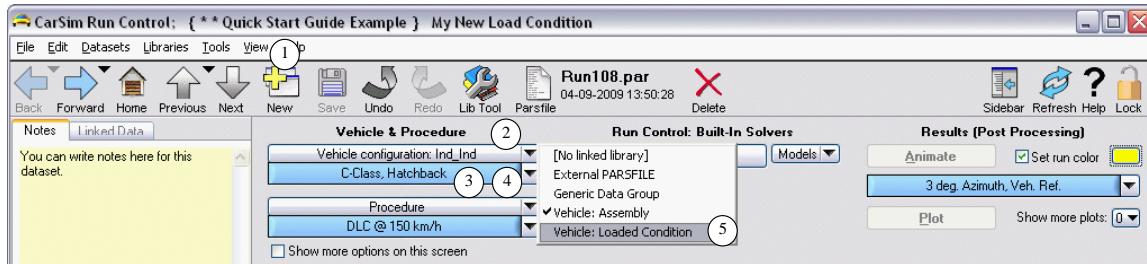

Figure 26: Selecting a different library of vehicle datasets.
1. Click the **New** button (1) (Figure 26) to create another new dataset, and give it the name My New Load Condition. Once again, the screen shows your new title. As before, the **Animate** and **Plot** buttons are dimmed because the run hasn't been made yet.